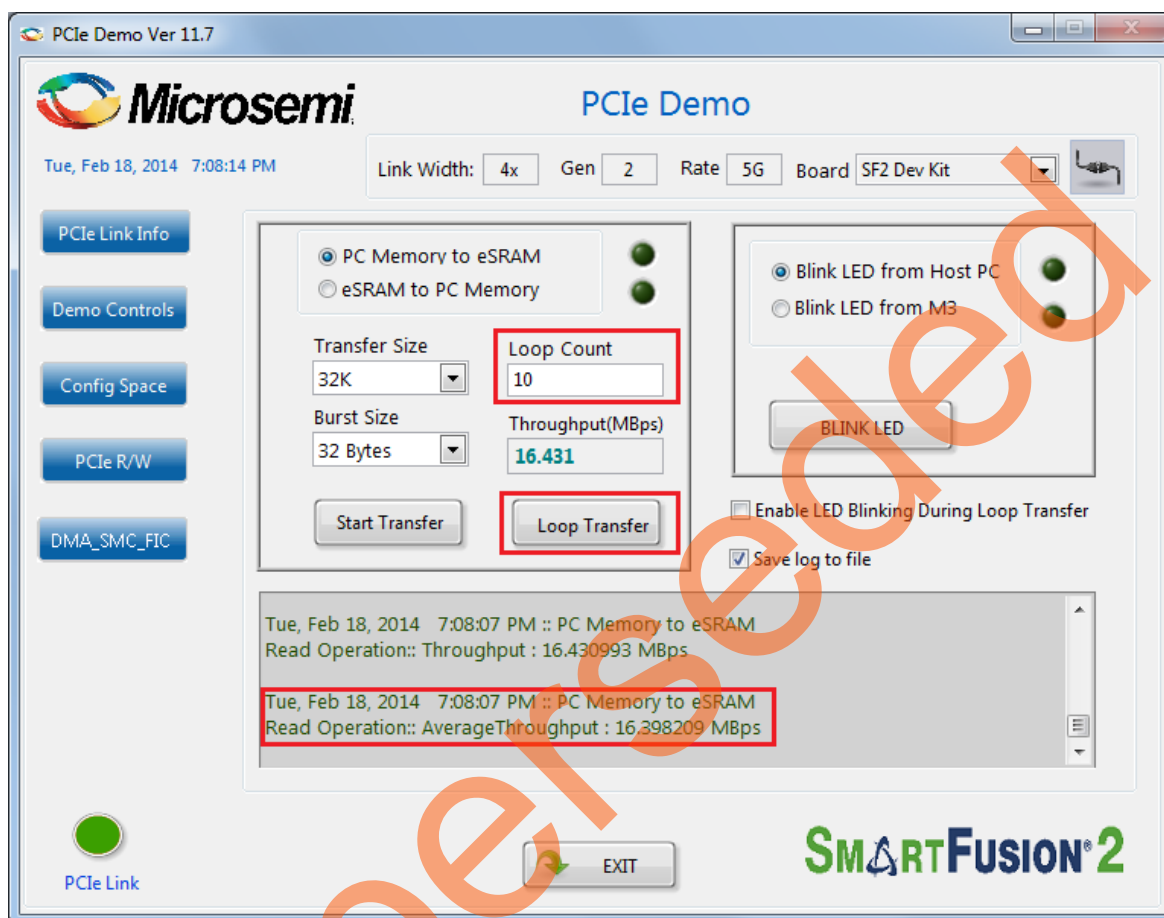

Figure 27 • Throughput in the DMA Transactions from the Host PC to eSRAM
19. Enter 10 in the **Loop Count** field and click **Loop Transfer** to perform 10 sequential DMA transactions. After completion of data transfer, the PCIe_Demo application displays the throughput. Figure 27 shows the throughput in DMA transactions from Host PC to eSRAM. The average throughput is also logged. The log file is stored in the Host PC at C:\PCIe_Demo\DriverInstall.